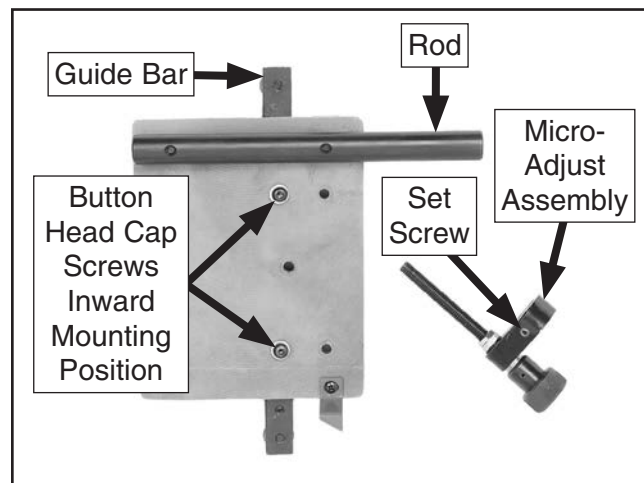

Figure 11. Guide bar mounted in inward position.
3. Loosen set screw on micro-adjust assembly, then remove micro-adjust assembly from rod (see **Figure 11**).
4. Remove (2) pre-installed M6-1 x 20 button head cap screws that secure guide bar to base plate, then re-install bar in inward mounting position, as shown in **Figure 11**.